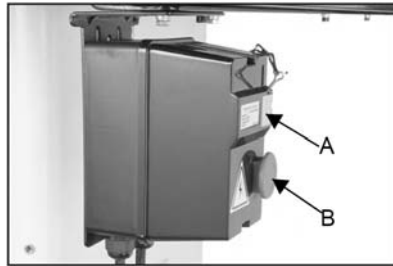

Fig.29
7.1 Electrical Operation (Fig.29)